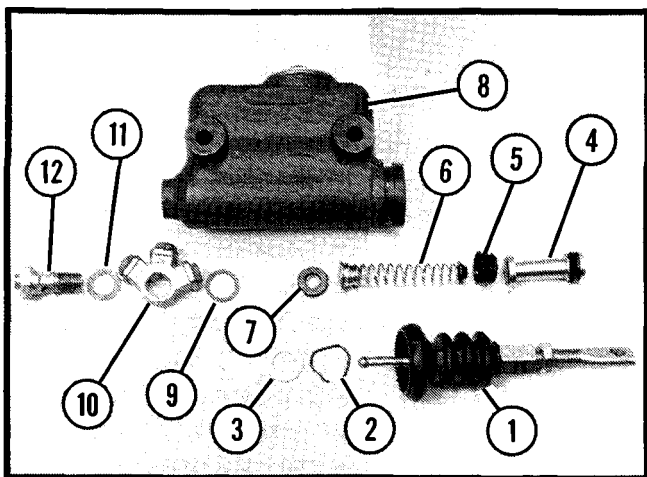

Figure 12.
5. Remove the boot from the cylinder. See Figure 12.
6. Remove the lock ring, washer, piston, primary cup, spring, and valve seat from the master cylinder. See Figure 12.
1. Replace all defective parts with new parts. Use all the new parts contained in repair kit. Never reuse old parts if new parts are supplied in the repair kit. Before reassembling, dip all internal parts in brake fluid; then reassemble the cylinder in reverse order of disassembly. See Figure 12. for proper sequence of parts and parts contained in repair kit.
4. Install the brass banjo fitting to the master cylinder with the bolt. See Figure 12.